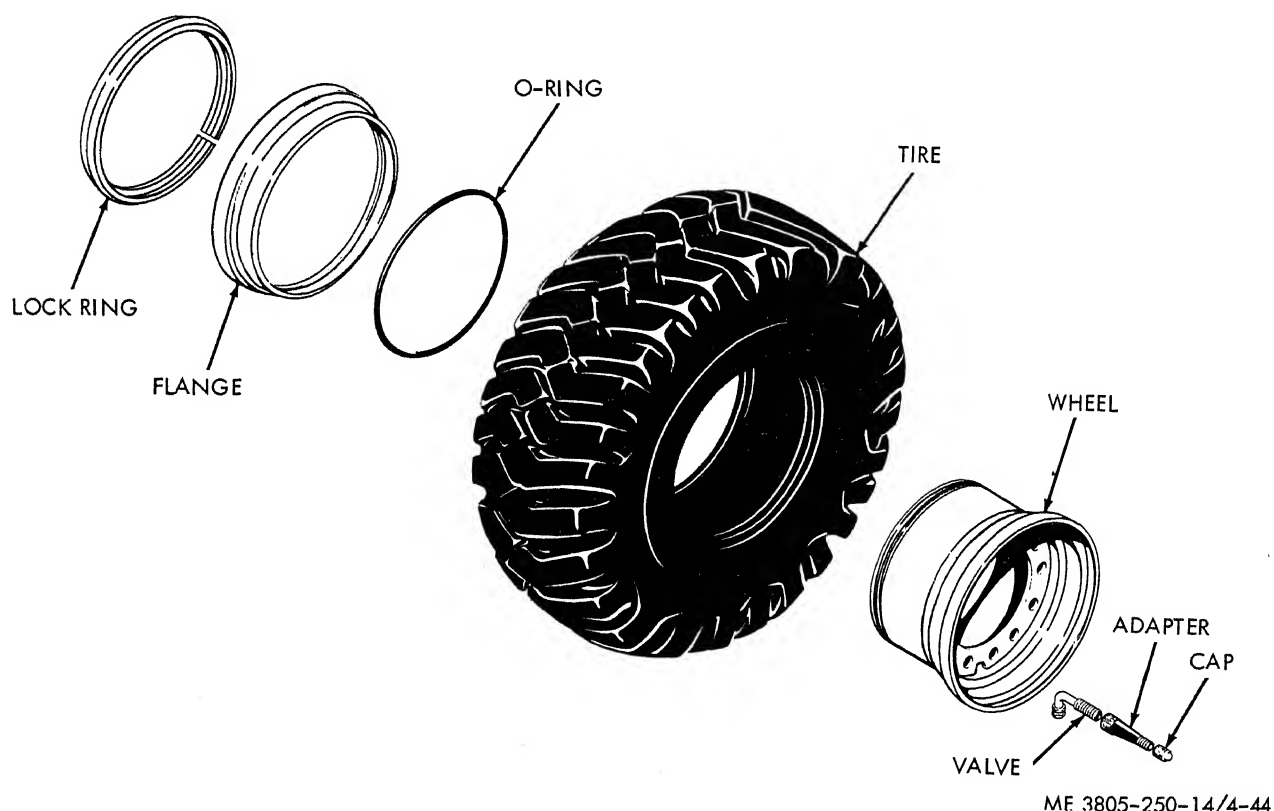

Figure 4-44. Wheel and tire, exploded view.
(1) Park the loader on a firm level surface with the bucket resting on the ground. Install the safety locking bar. Engage the parking brake and block the wheels which are not to be removed.
(2) Use a suitable jack or hoist to raise the wheel at least 2 inches off the ground.
(3) Remove the cap, valve, and adapter (fig. 4-44) and deflate the tire.
(4) Force a tire tool between the lock ring and the flange, and pry the lock ring from the flange.
(5) Remove the preformed packing from the wheel, and remove the tire.
(1) Place the tire on the wheel (fig. 4-44).
(2) Lubricate the preformed packing and install in the groove in the rim.
(3) Slide the flange onto the rim, using care not to damage the preformed packing. Install the lock ring, tapping into position with a soft hammer.
(4) Inflate the tire with the valve and adapter for an initial rapid air flow. When the tire seals, install the valve and adapter and inflate the tire to 60 psi to seat. Deflate tire to 45 psi and install the cap.